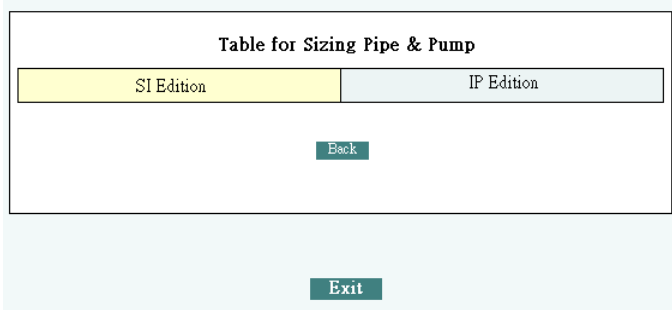
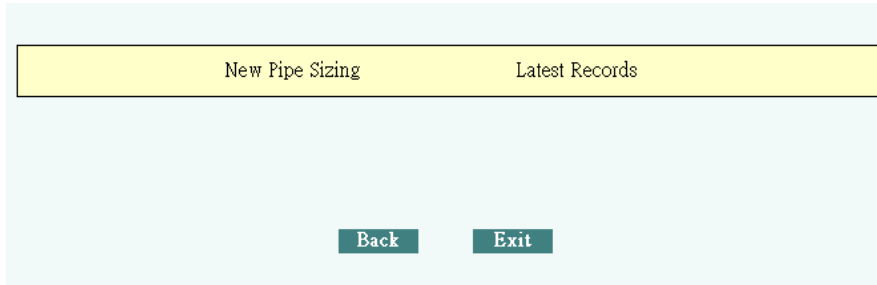

fig.2
fig.3
- Click SI Edition or IP Edition (**fig.2**). Then, click New Piping Sizing or Latest Records (**fig.3~6**).